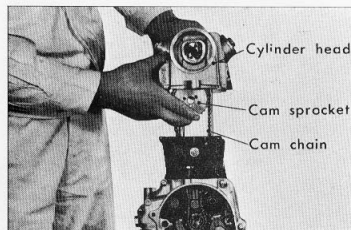

Figure 3-21. Installing the cylinder head
- (1) Install cylinder head together with cam sprocket. (Fig. 3-21)
The lubricating oil is pressure-fed into the right side of the camshaft and is forced out of the holes in the cam to lubricate the cam surfaces, rocker arms and the slippers. The camshaft is made of special cast steel with the cam and the bearing area being precision ground after heat treatment. The camshaft is supported at both ends by the bearings in the cylinder head, a cam sprocket is installed on the left end of the camshaft with 6mm bolts and is driven at one half crankshaft speed by the timing sprocket press-fitted to the crankshaft end, by means of a light weight endless chain. (Fig. 3-21, 3-31)